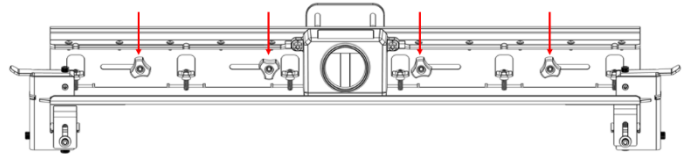

Figure 3 – Knobs to adjust fence faces
1. With your fence located where you intend to use it, loosen the four knobs shown in figure 3.
To replace your fence faces, remove the four knobs on the back of the fence, as shown in figure 3. Using a hammer, lightly tap the end of each fastener in the fence faces to remove the carriage bolts.